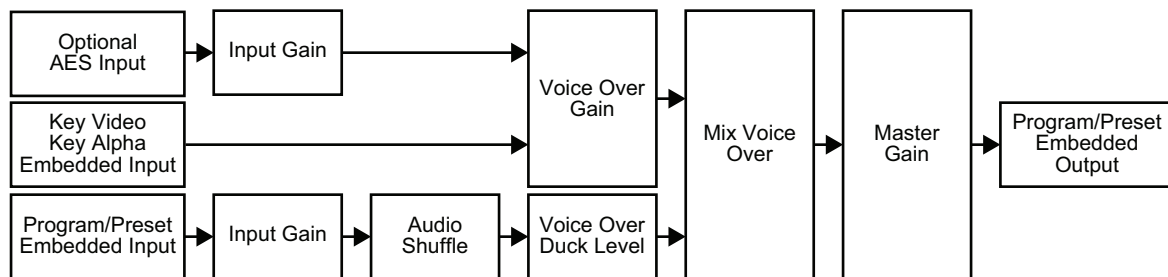

Figure 20 Audio Processing Workflow
**Figure 20** provides a simplified workflow diagram of the audio processing.